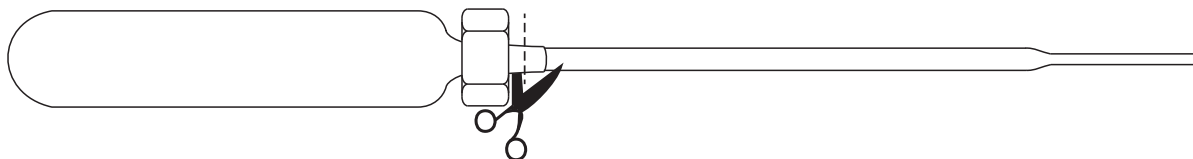

Figure 1. Cutting the Pipet
2. Screw the hex nut securely onto the stem. The hex nut will form its own threads as it turns. Cut off the remaining pipet stem (see Figure 1).